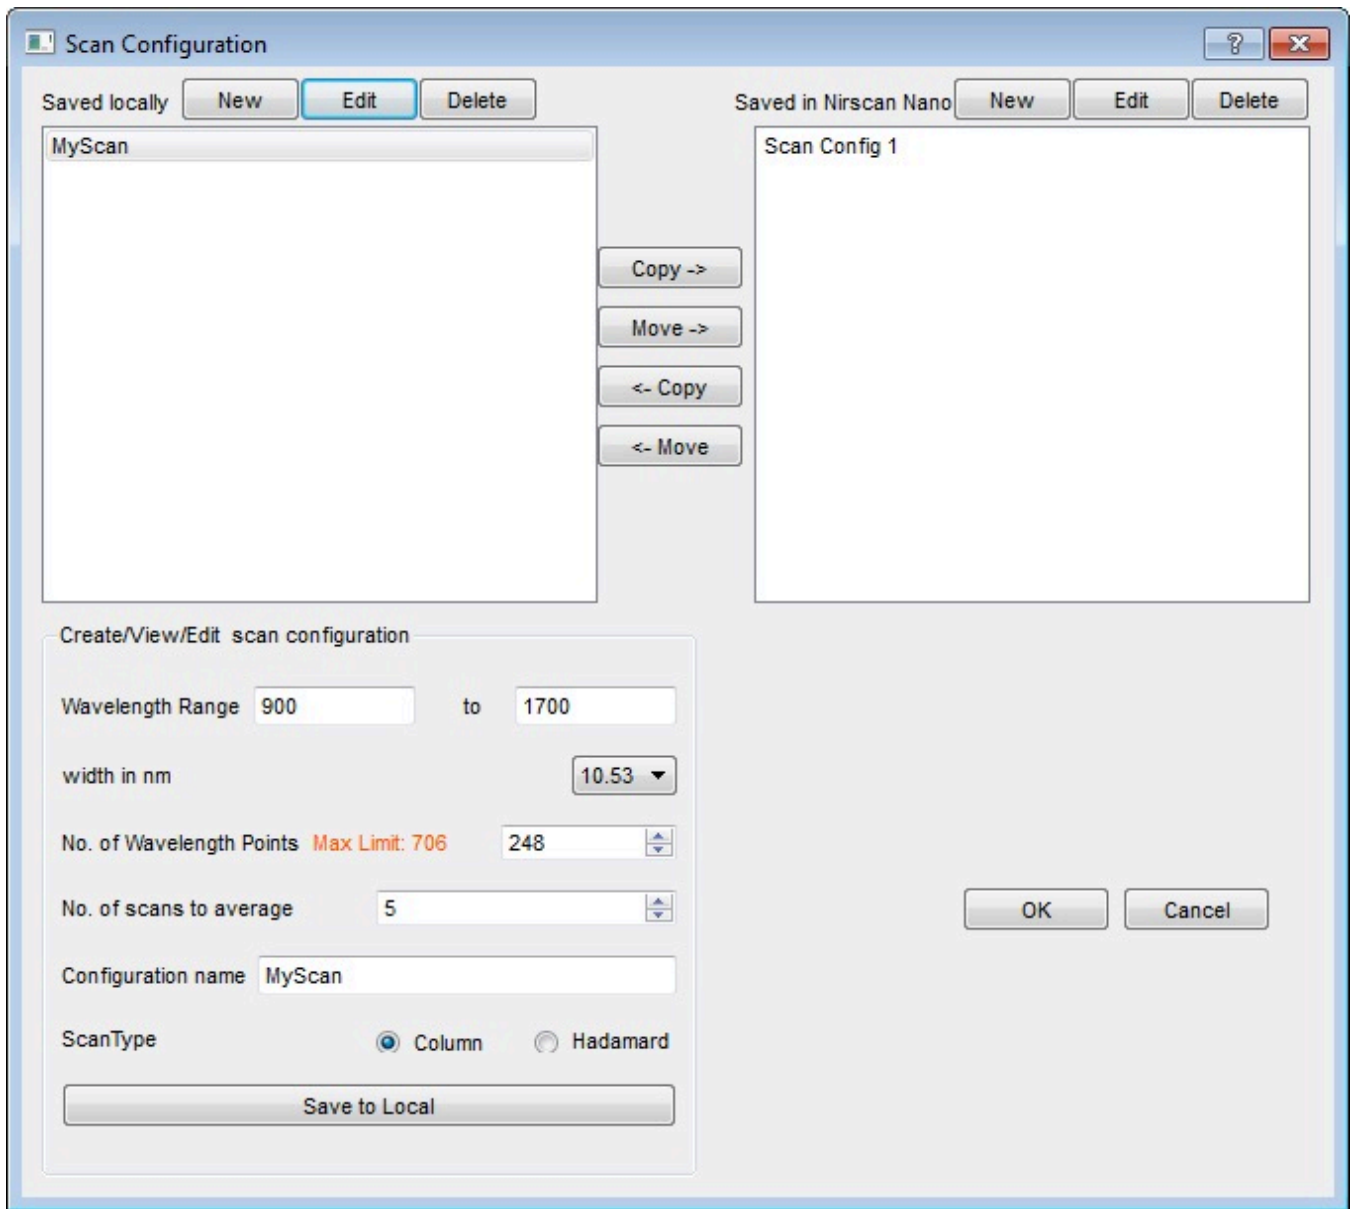

Figure 3-3. DLP NIRscanNano GUI Scan Configuration Dialog
A scan configuration must be created to scan a sample. (See Figure 3-3 for the Scan Configuration dialog screen.) **A scan configuration specifies the following parameters of a scan:**
2. The Scan Configuration dialog box shown in Figure 3-3 has three sections: